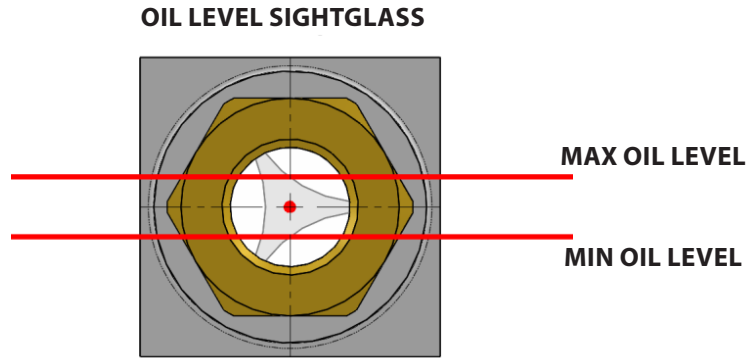

FIGURE 8
3. Fill the tank with RS8000 synthetic lubricating oil, up to the level indicated by the viewer (figure 8).
6. Again, fill the tank with unused RS8000 synthetic lubricating oil, up to the level indicated by the viewer (figure 8).
8. Switch off the compressor. Discharge the pressure. Top up the lubricant up to the level shown by the viewer, through the oil-filling hole (figure 8).